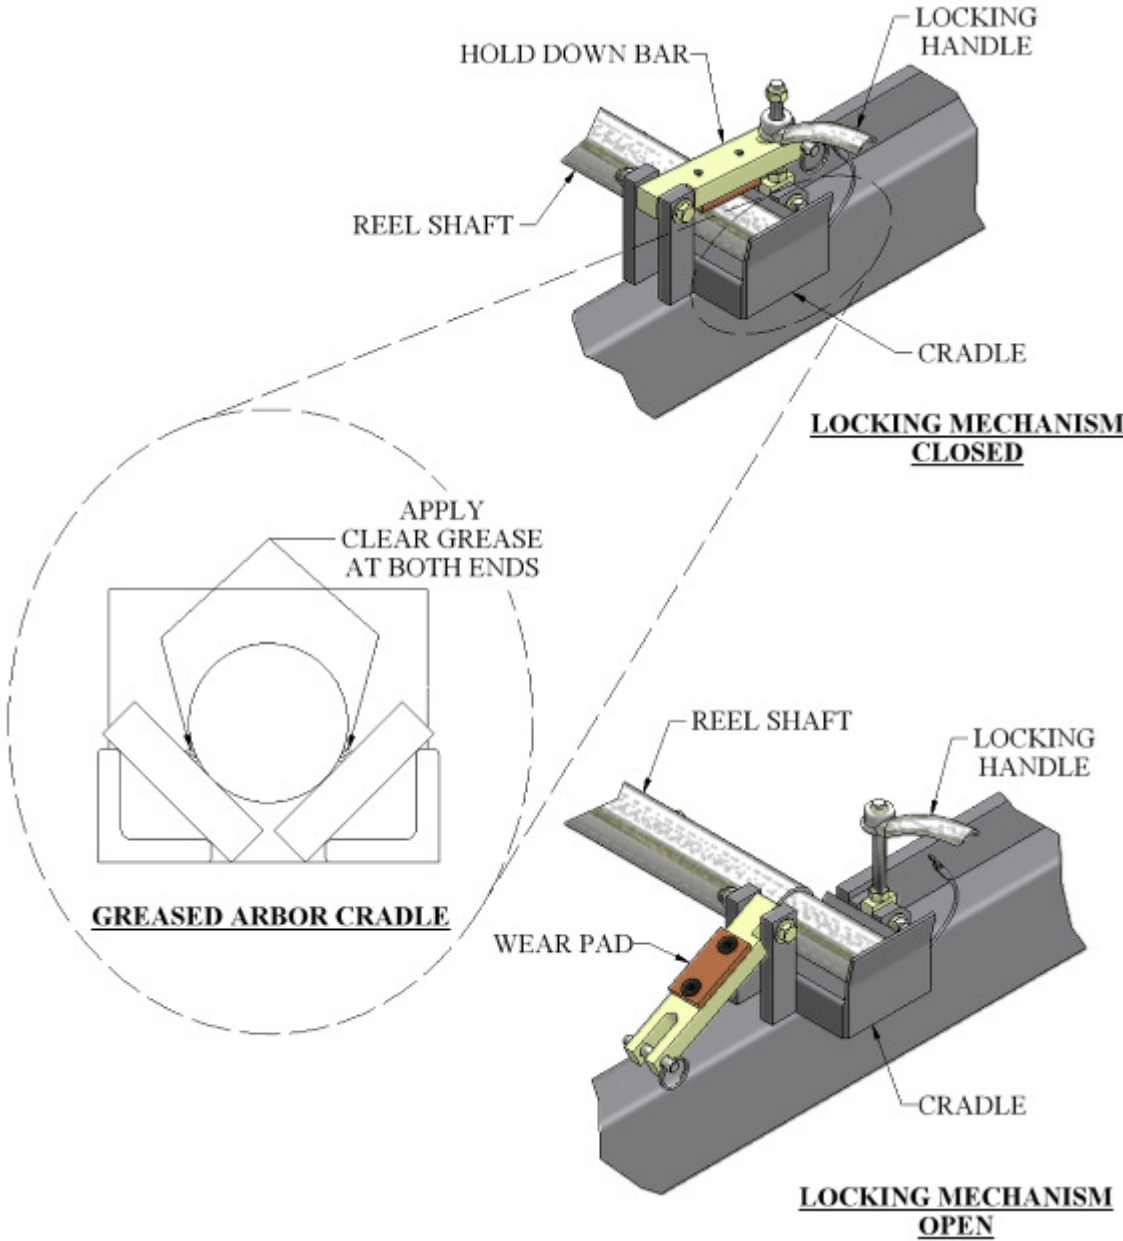

Figure 11: Expandable Reel Assembly
1. The reel shafts must rest in the cradles on the reel rack. Keep the cradles lubricated with synthetic lube to minimize wear. (Figure 11)
2. Use the Hold Down Bars on each cradle to secure the coil and reel to the reel stand during both operation and transit of the machine. The Hold Down Bracket should be used to keep the coil from uncoiling too fast during the fabrication of panels. Apply just enough drag to keep coil tensioned. (Figure 11)
1. Prepare the reel stand by making sure the Hold Down Bars are in the unlocked and open Position (Figure 11).
3. Rotate the Hold Down Bars (Figure 11) to the closed position and thread the handle onto the hold down bolt. If you are going to run panel from this coil, tighten the left and right handle just snug. Final adjustment of tension should be made while running a panel to keep reel from unwinding material too fast. As the coil becomes smaller, re-adjustment will need to be made.